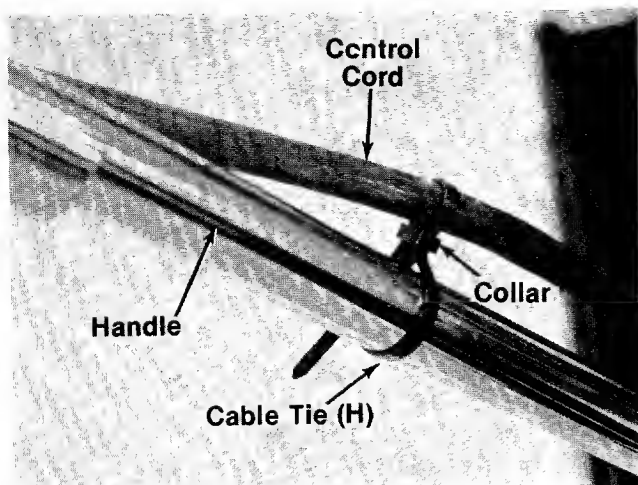

FIGURE 4.
4. The cable ties act as insulators between the handle and the control cord. Secure the control cord to upper and lower handles with cable ties (H) as follows. See figure 4.